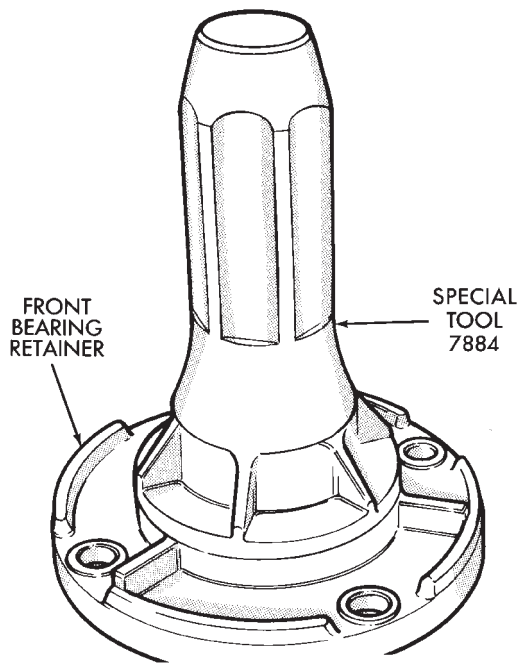

Fig. 52 Install Front Bearing Retainer Seal
(9) Remove seal from front bearing retainer with suitable pry tool.
(10) Install new oil seal in front bearing retainer with Installer 7884 (Fig. 52).